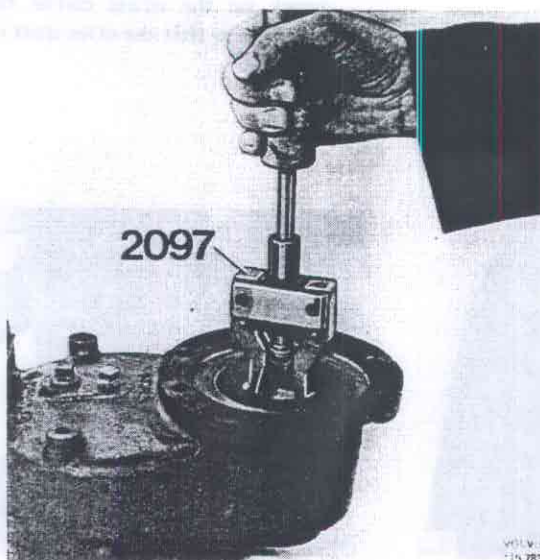

Fig. 46-120. Removing the seal
4. Remove the seal with 2097, Fig. 46-120.